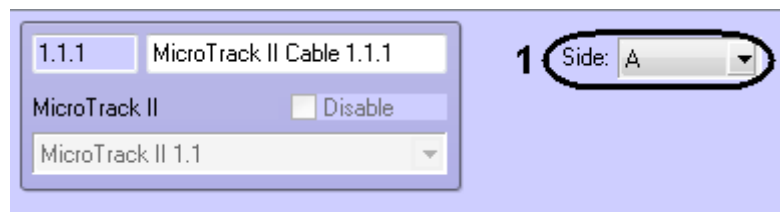

Fig. 3.6—2 Configure the MicroTrack II Cable
2. From the **Side:** drop-down list select the ID of *MicroTrack II* cable (Fig. 3.6—2, 1).